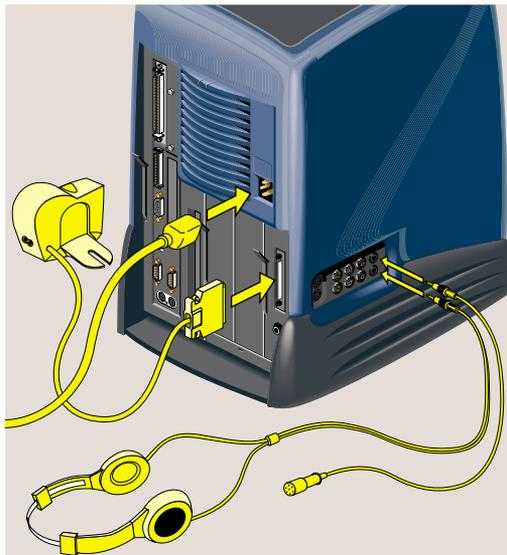

Figure 5-33 Reconnecting the Audio -Visual Cables
7. Reconnect the power cable any audio-visual cables that you removed earlier (Figure 5-33).